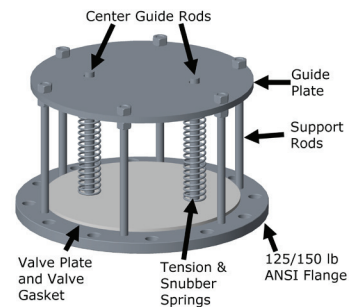

Figure 75a - Relief Valve (RV)
The Relief Valve (RV) consists of a spring loaded disk valve mounted on ANSI flange. See **Figure 75a**.